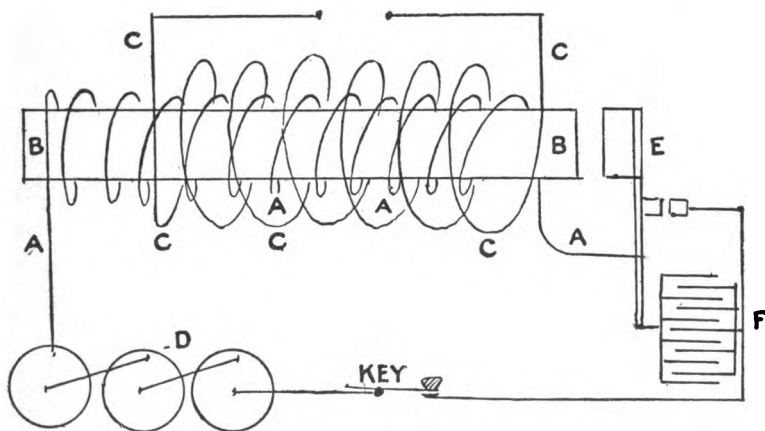

Fig. 5
The principle of the magnetic field of a magnet inducing a current of electricity in a coil about it is employed in the induction-coil. In its simplest form it consists of a coil of wire, the "primary" (A, Fig. 5), wound about a soft-iron core (B, Fig. 5), and the whole surrounded by a secondary coil (C), composed of many thousands of turns of very fine
As currents are induced only when the magnetic field is changing, a device known as an "interrupter," or "vibrator," is used to turn on and off the current flowing from the battery through the primary coil. This interrupter consists of a spring which presses against an adjustable point, both being provided at their contacts with platinum points (E, Fig. 5).
In addition to these parts the coils are also provided with a "condenser," a device made from sheets of tin-foil separated by waxed paper and connected with the terminals of the primary coil. This condenser stops sparking at the platinum points, and also adds to the intensity of the induced secondary current (F, Fig. 5).